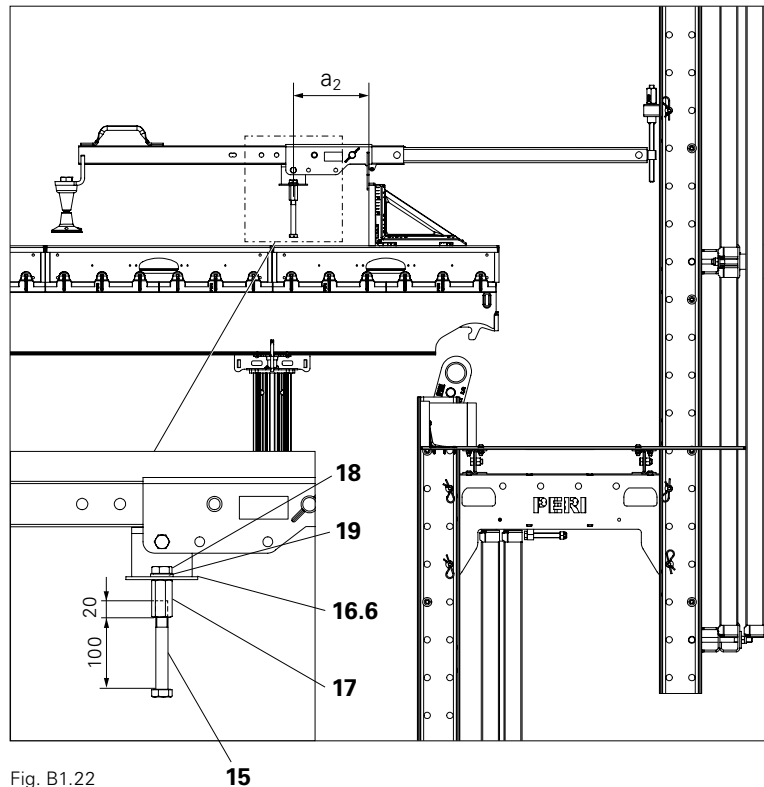

Fig. B1.22
Use 2 Bolts M16x120 (15) with 2 long Nuts M16x50 (17) as anchoring. For preparation, screw in the bolts approx. 20 mm into the nuts. Fix the prepared anchors with short Bolts M16x30 (18) and Washers A16 (19) in the bracket for the Anchor Bolt (16.6). Prepared anchors remain in the concrete after dismantling the slab shoe. (Fig. B1.22)